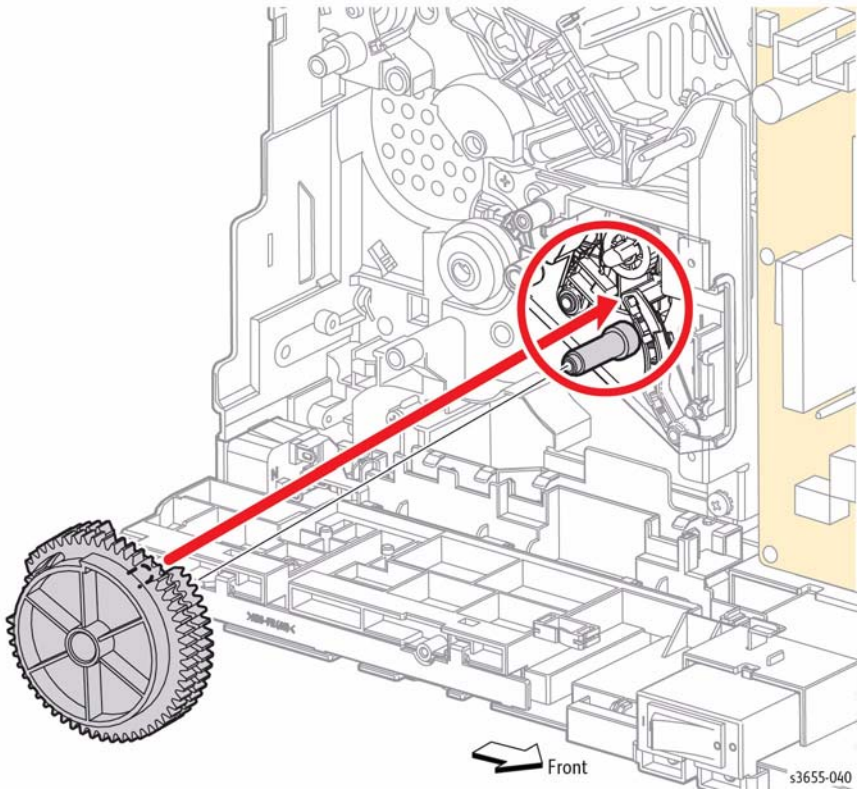

Figure 10 Install the Feed Gear
5. Refer to Figure 10 when installing the feed gear. Check the actuator properly engages the feed gear.